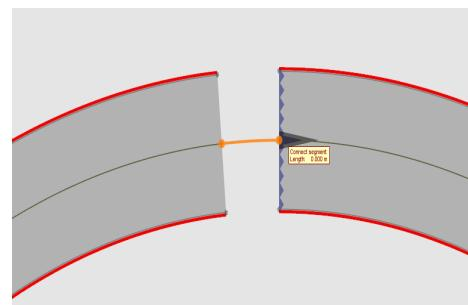

Figure 3.34: 360 Turn and connection of the segment to a closed loop
- Save your current TestRun and open a new one. Pick FS_RaceCar_6.0 as your vehicle, choose the racing driver (Corner Cutting Coefficient = 1.0) and create a 360 degrees turn with 30m radius in the Scenario Editor (see Figure 3.34:).